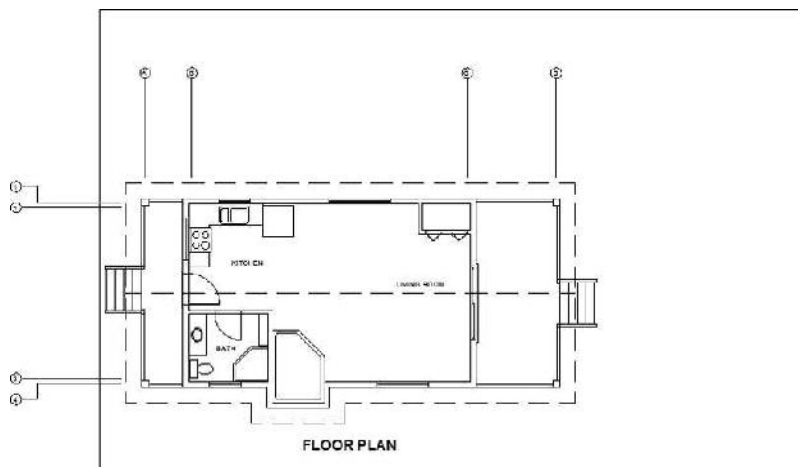

FIGURE 8.40: Zooming out to include the entire rectangle
5. Use Zoom Extents to zoom out until the entire rectangle is visible in the drawing area (see Figure 8.40).